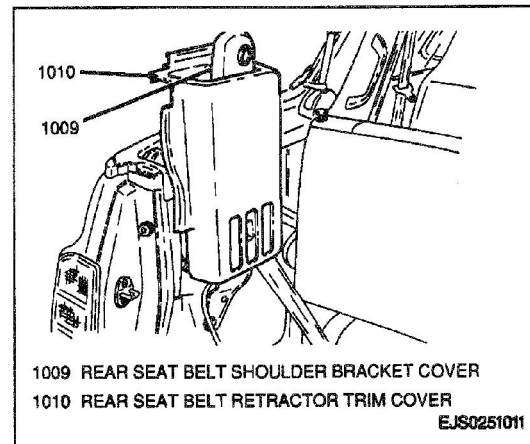

Figure 11—Rear Seat Belt Retractor Trim Cover—
3. One screw and rear seat belt retractor trim cover (Figure 11).
2. Rear seat belt retractor trim cover to vehicle; secure with one screw (Figure 11).